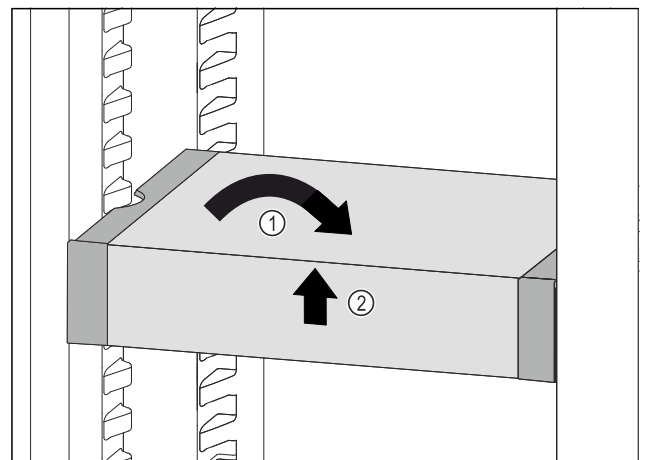

Fig. 105
- Set VarioSafe straight. Fig. 105 (1)
- Lift VarioSafe at the front. Fig. 105 (2)